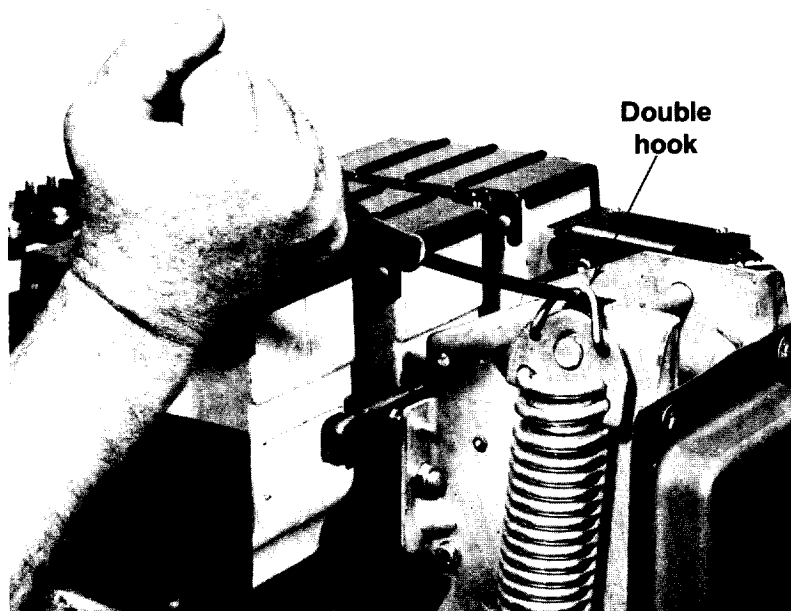

FIG. 7
5. To remove the closing spring assembly from the spring pin, place the ends of the double hook into the holes of the upper anchor plate. Insert a screwdriver or other levering device into the loop of the hook as shown in figure 7. Extend the closing spring and disengage the spring pin by drifting it to the right.